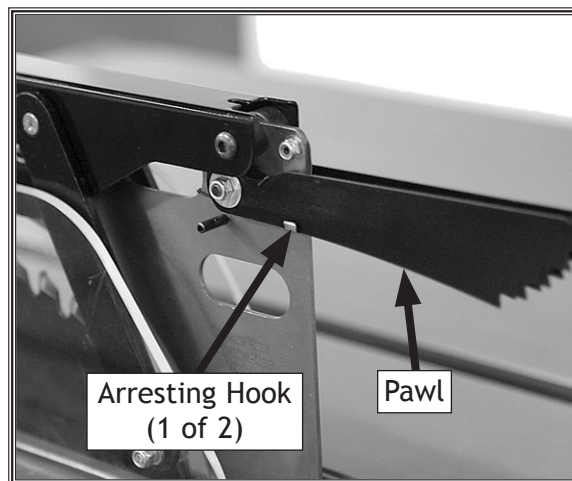

Figure 42. Pawl disabled.
2. Rotate one or both arresting hooks downward, then place the pawls on each of the hooks (see Figure 42).